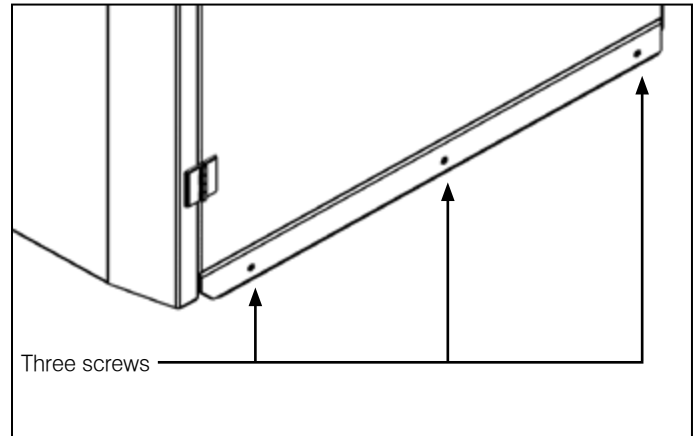

Figure 10-4: Three screws in right-hand side panel
11. Undo and remove the three screws from along the bottom edge of the boiler right hand side panel. Refer to Figure 10-4. Keep these screws for re-fitting later.